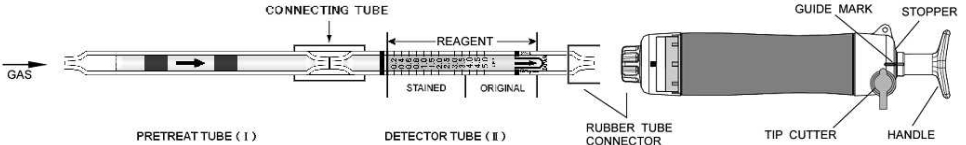

Fig.1
- ① Break both ends of the pretreat tube (I) and detector tube (II), and connect each end of the pretreat tube and detector tube with connecting tube as shown in Fig.1.
- ② Insert the detector tube into the aspirating pump securely as shown in Fig.1. (Arrow mark shall point to the pump.)
- ③ Align the guide marks on the shaft and stopper of the aspirating pump.
- ④ Pull the pump handle at a full stroke until it locks and wait for 2 minutes or until the completion of sampling is confirmed with the flow indicator of the pump. (See descriptions about the flow indicator in the instruction manual of the pump.)
- ⑤ Push back the handle without removing the detector tube from the rubber tube connector so that air in the pump will be discharged perfectly. Then repeat the step ③~④ once more.
- ⑥ On completion of sampling, read the scale at the maximum point of the stained layer.